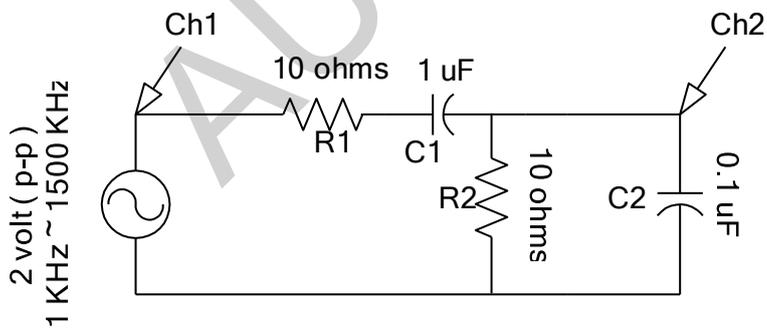

Figure 4 : RC Bandpass Filter
And its corner frequency ω_c is also $\frac{1}{RC}$. Figure 4 shows a second order band pass filter, which is designed to pass all signals whose frequency lie within a specific band. Therefore it has two cutoff frequencies ω_{CL} below which the filter blocks signals and ω_{CH} above which it again blocks signals. Thus the filter has a pass band between these two frequencies and the frequency ω_o is the mid band frequency where the gain is maximum. The gain of this filter is given by
4. Now construct the circuit of figure 4 and repeat steps 1 and 2 and fill up table 3.